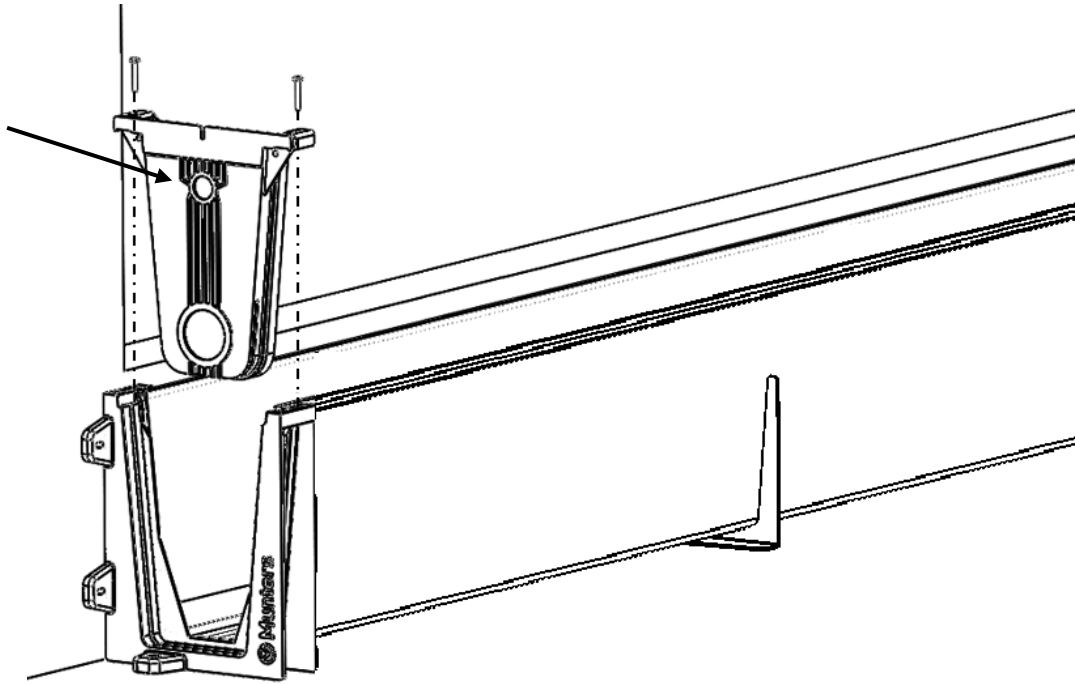

Figure 16
Close the left hand side of the Munters Gutter System installing the Bottom Gutter End Cover [*ref. 18*] and fixing it to the External Joint Bracket by means of (2 pcs) Screws for thermoplastic [*ref. 7*]. See Figure 16.